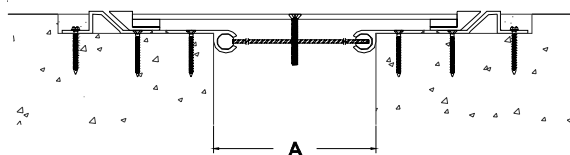

Figure 8
**STEP 11** Select a cover plate and the centering bar bolts. Lay the selected cover plate beside the installed base members. Ensure that the cover plate is properly aligned with the base members. Slide the centering bars into position so that the anchor hole in the center of each centering bar is aligned with the respective anchor hole in the cover plate. Place the cover plate into its installed position. Ensure that the cover plate remains level, properly aligned, and at the proper elevation. Insert a Centering Bar Bolt through each of the bolt holes in the Cover Plate and into the Bolt hole in each corresponding Centering Bar. Hand tighten each centering bar bolt until the cover plate is held firmly in place (see Figure 8).